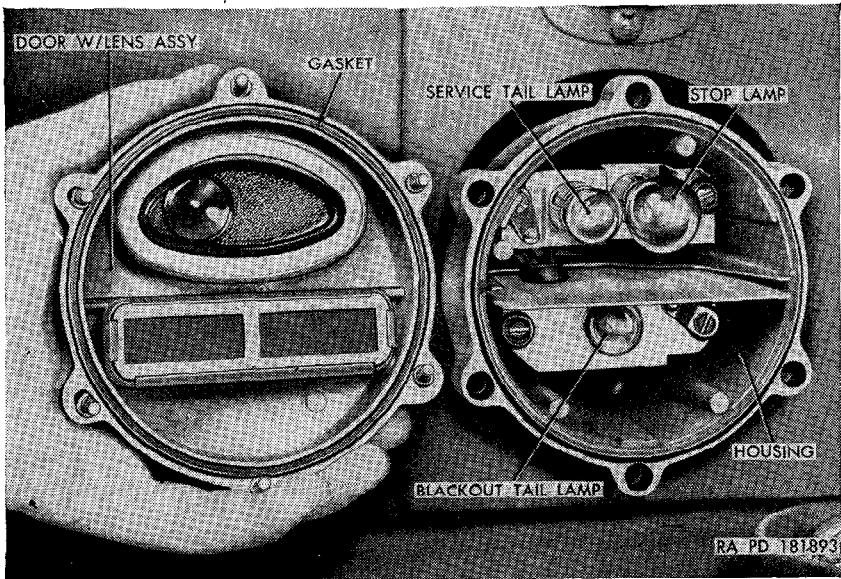
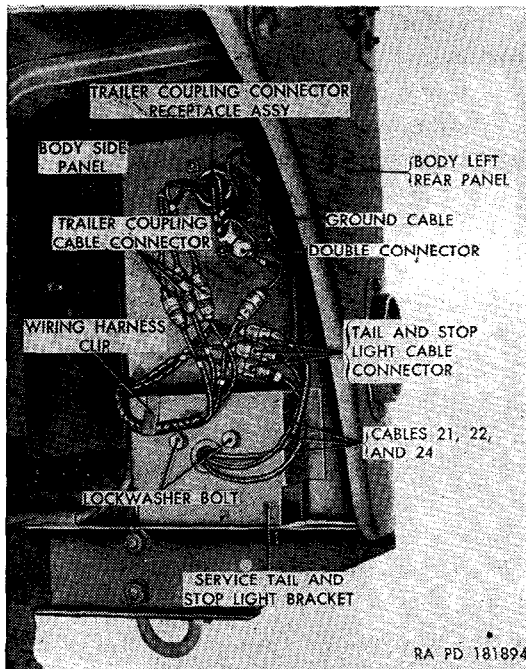

Figure 107. Service tail and stop light assembly—installed—door removed.
Figure 108. Trailer coupling electrical connector receptacle and service tail and stop light assemblies (M38A1)—disconnect points in wheel house—guard removed.
a. Lamp Replacement (fig. 107).
- (1) Remove door with lens assembly (par. 166a(1)).
- (2) Press in on faulty lamp and turn counterclockwise to disengage it from lamp socket.
- (3) Press new lamp into socket and turn clockwise to lock it in position.
- (4) Install door with lens assembly (par. 166a(4)).
b. Removal (fig. 108).
- (1) Remove the four lockwasher screws in the passenger compartment securing the service tail and stop light and the trailer coupling electrical connector receptacle guard to the body. Two of the screws are located on the top of the wheel house and two are located on the body side panel of the wheel house.
- (2) Remove the lockwasher screw securing the guard to the bracket welded to the inner side of the wheel house outer panel, and remove the guard.
- (3) Working from underneath the vehicle, remove the two lockwasher bolts securing the service tail and stop light assembly to mounting bracket welded to the body.
- (4) Working from rear of vehicle, pull light out of body and disconnect cables 21, 22, and 24 tail and stop light connectors. Remove light from vehicle.
(fig. 108)